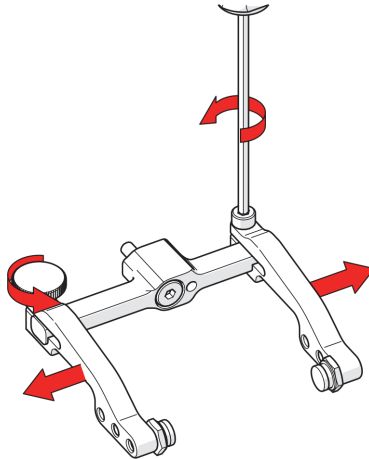

Figure 2-67 Remove probe holder arms
3. Loosen the probe holder arm adjustment knob and the arm clamp screw. Slide the probe holder arms off the yoke (see Figure 2-67 on page 102).